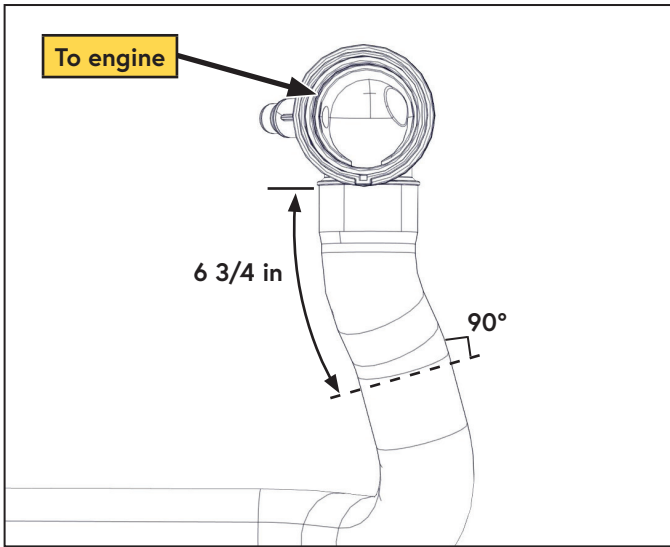

Figure 28 — Lower radiator hose modification
- From the end of the engine side of the hose, measure 6 3/4 in along the outside radius towards the center of the hose and mark with a grease pen (Figure 28).